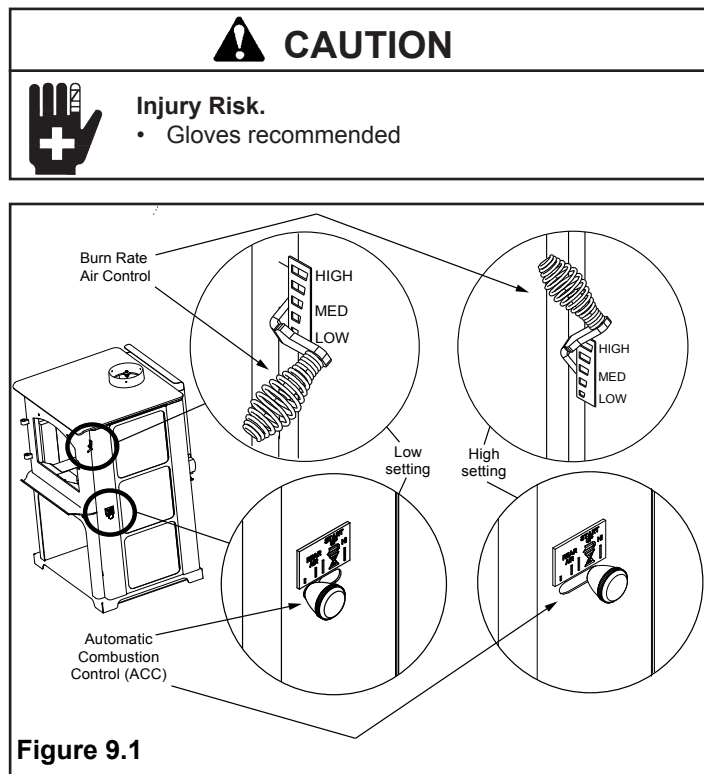

Figure 9.1
very important that the flames be maintained and not allowed to go out. This will ensure the cleanest possible fire. If the flames tend to go out, it is set too low for your burning conditions. The air control located at the upper right hand corner is used to adjust for burn rates. This is called the Burn Rate Air Control. **Figure 9.1**
This air supply enters at the upper front of the firebox, near the top of the glass door. This preheated air supplies the necessary fresh oxygen to mix with the unburned gases, helping to create second, third and fourth combustions. This air is regulated by the Burn Rate Air Control. When the control is moved all the way up it is on the High setting and when moved all the way down it is on the Low setting. **Figure 9.1**
Open both Burn Rate Air Control and ACC systems fully. To do this with the Burn Rate Air Controls push spring handle up to high. For the ACC timer system push knob towards back of appliance until the knob is located under the high position. **Figure 9.1**
To maximize heat output with the ACC timer System or also known as high burn push the ACC Air Control lever towards the back of the appliance and leave. This combined with having the main burn rate control lever pushed up will deliver the most amount of air needed to achieve the highest amount of heat output. **Figure 9.1**
- Then activate the ACC timer system by pushing the knob all the back toward the appliance to “HI” then pull forwards towards the front of the appliance until the knob stops (**Figure 9.1 on page 9**).